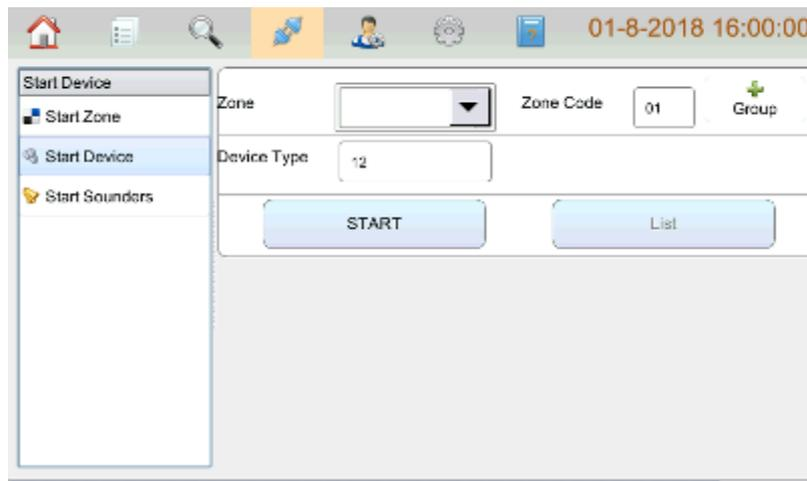

Fig 5.4
**Start Device:** starting a designated device. Clicking **Start Device** enters the screen shown below Fig 5.4. **Input zone number, zone code and device type, then click START button to start the device. User can also click List button to browse all the devices which meet the input conditions.**